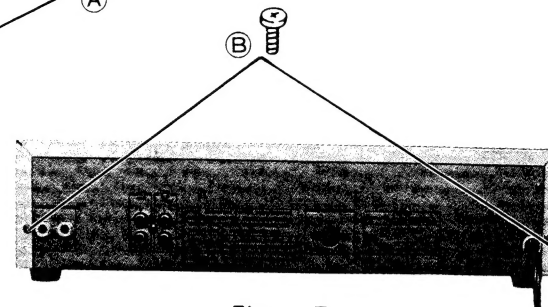

Figure 9
2. Remove two screws (B) (3φ x 8mm) from the rear side. (See Figure 9).